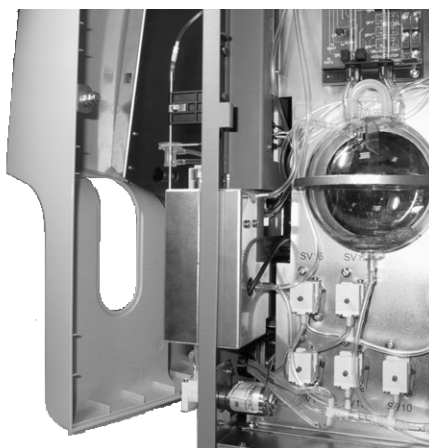

Figure 5-28
3. Figure 5-28 shows the machine with the front panel opened.